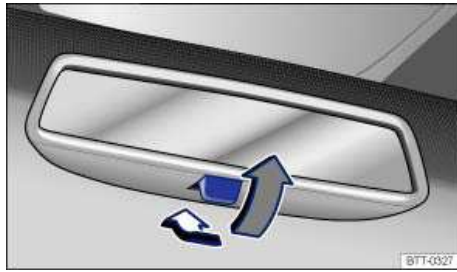

Fig. 81 Manually adjustable inside mirror.
- To adjust to non-glare visibility, move the lever so that it points backward ⇒ fig. 81.